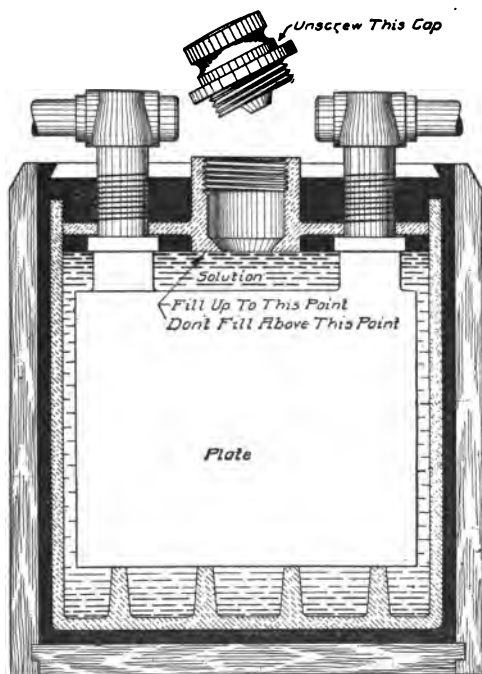

Fig. 383. Section of Willard Starting Battery, Showing Mud Space
**Construction Details.** For automobile starting and lighting service, the elements of the cells are placed in insulating supports in the bottom of the hard rubber jars and sealed in place. These supports hold the plates off the bottom of the jar several inches in the later types of starting batteries. Figs. 383 and 384 show sections of the Willard starter battery and another standard type. This is known as the mud space and is designed to receive the accumulation of sediment consisting of the active material which is shaken off the plates in service. This active material is naturally a good electrical conductor, and if it were allowed to come in contact with the bottoms of the groups of plates, it would short-circuit the cell. Sufficient space is usually allowed under the plates to accommodate practically all of the active material that can be shed by the plates during the active life of the cell. In a battery having cells of this type, it is never necessary to wash the cells, as the elements themselves would require renewal before the sediment could reach the bottom of the plates.